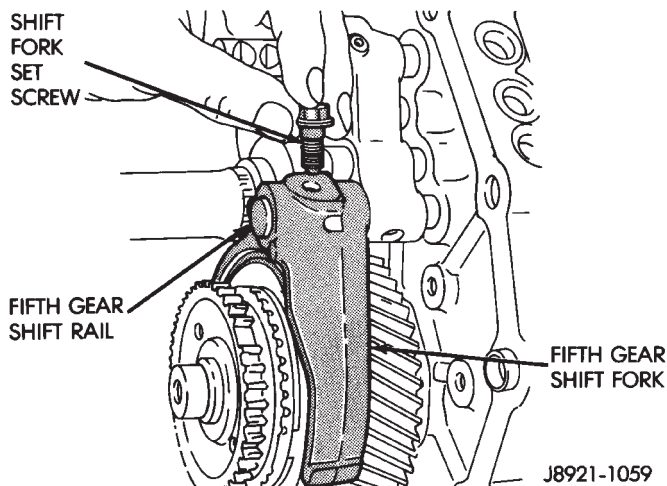

Fig. 29 Fifth Gear Fork Set Screw Removal
(8) Remove fifth gear shift fork set screw (Fig. 29).